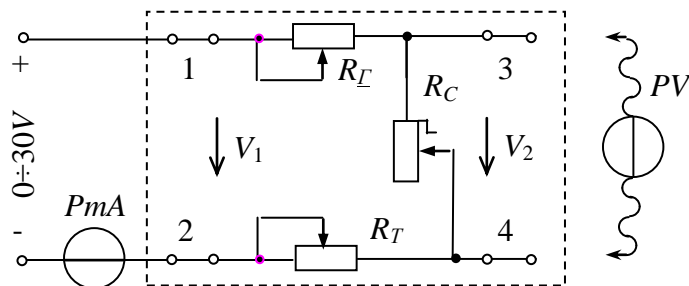

Fig. 1.10
3. Collect the circuit (fig. 1.10) and connect it to the clamps $\langle - \rangle$ $\langle 0 \div 30 V \rangle$. Place *LATR* switch in position $\langle - \rangle$, $\langle 0 \div 30 V \rangle$.
5. Set the voltage across clamps 1–2 $V_1 = V_{loc}$ and maintaining it constant during the experiment ($V_1 = const$), change the resistance R_c turning it from 2 to 10 positions. Write down the results of measuring to the table 1.2, items 2-10.
The name and the purpose of the work. Homework – the calculation of the circuit. The schematic diagram of the investigated circuit (fig 1.10). The table 1.2.